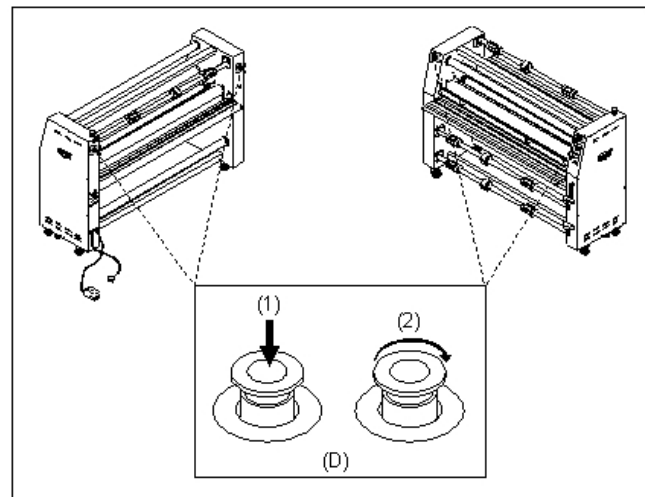

Fig 9
D. E-STOP: Four emergency stop buttons exist on the laminator. Two located on the left and right front and two on the left and right rear of the laminator. (Figure 9)